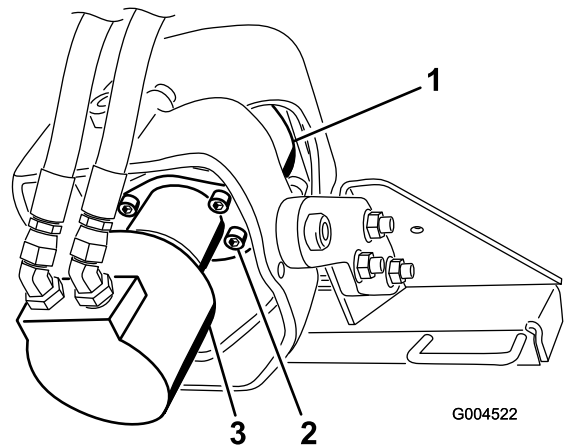

Figure 13
- Support the drive head over an oil pan (Figure 13).